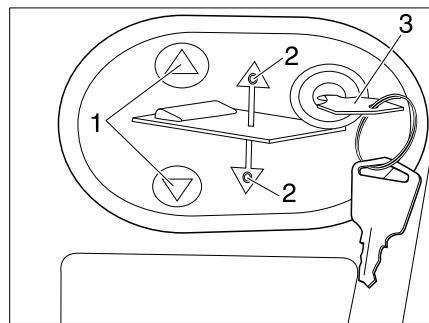

Fig. 169 Operating panel for the electrical pull-down bed
- Insert the key (Fig. 169, 3) into the operating panel (Fig. 169, 2).
- Press the  or  (Fig. 169, 1) button and keep it pressed. The respective LED (Fig. 169, 2) lights up and the pull-down bed moves down or up.
- When the desired position has been reached, release the  or  (Fig. 169, 1) button again. The respective LED (Fig. 169, 2) extinguishes.
- Remove the key (Fig. 169, 3).